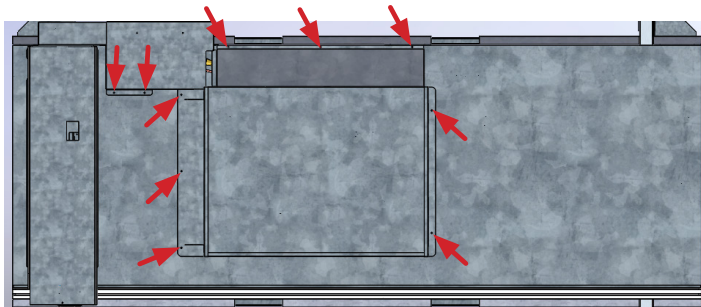
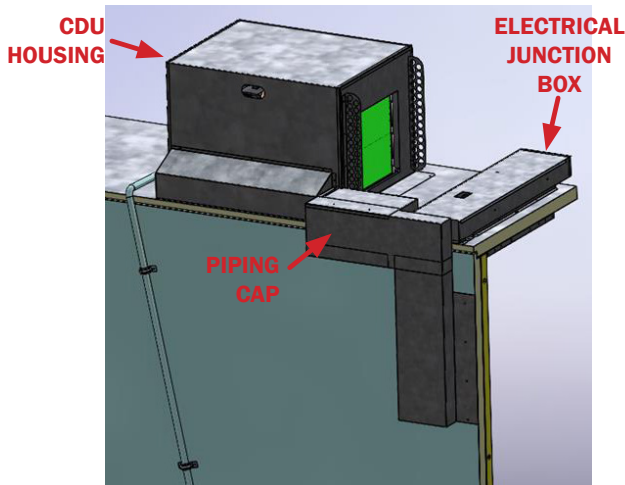

Fig. 61 Location of piping cap fasteners and CDU housing screws (3-5 door cases)
Fig. 62 Rear view of final install (high charge cases)
- With piping connections reconnected and electrical junction box installed, the condensing unit cover and piping cover can be placed back onto the high charge cases using the screws retained from "DOORWAY PREP" steps 1 and 2 (Fig. 61). Review those steps to ensure covers are fastened properly to complete installation (Fig. 62).